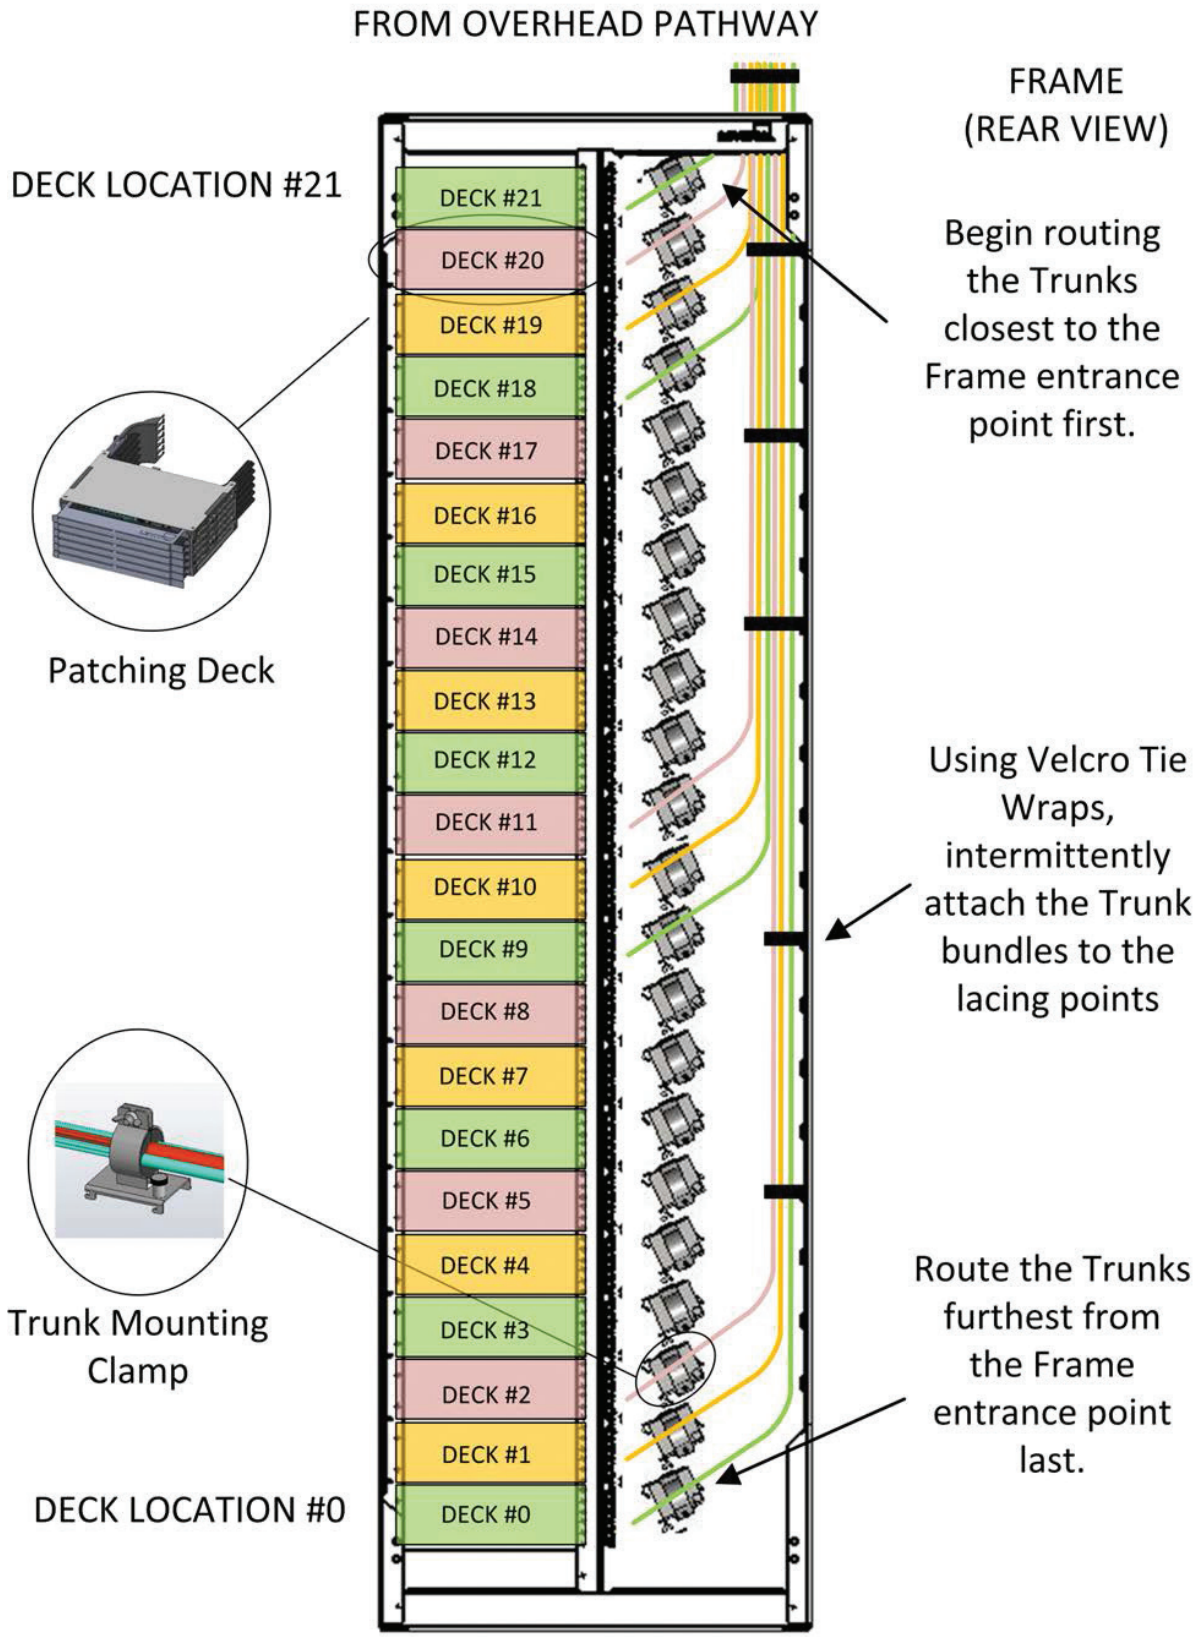

Figure 19
6.1.3.1 Positioning and routing cables that enter the frame entrance first will provide the best bend radius control and utilization of the frame entrance point. (See figure 19)